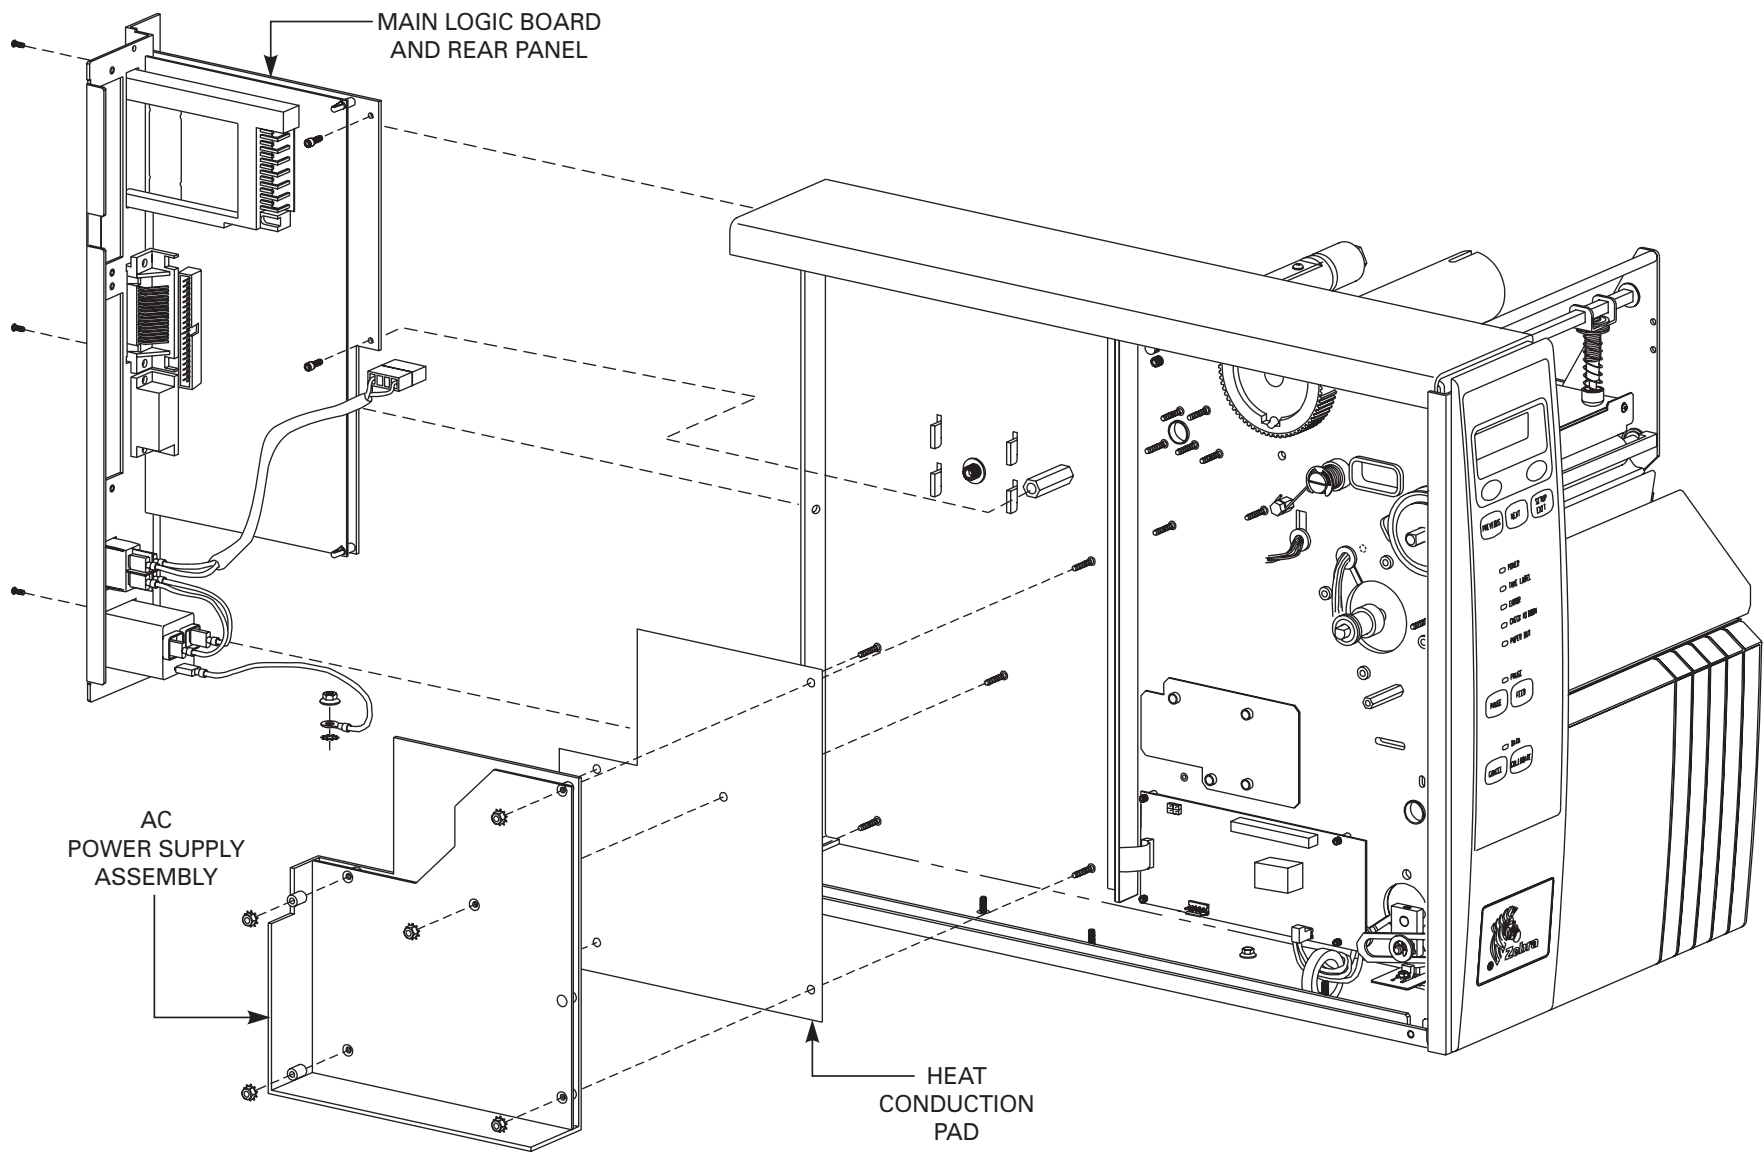

Figure 5.15 AC Power Supply Board
5. Refer to Figure 5.15. Remove the 2 screws at the top and center right hand corners of the metal mounting plate directly behind the Main Logic Board.
1. Refer to Figure 5.15. Position the cables out of the way while placing the AC Power Supply Assembly into the printer. (Insure the heat conduction pad is in position.)
2. Refer to Figure 5.15. Install the 5 hex nuts and 2 spacers which hold the AC Power Supply Assembly against the printer chassis. (Insure the plastic spacers are installed on the two left posts.)
4. Refer to Figure 5.15. Install the 2 screws at the top and center right hand corners of the metal mounting plate directly behind the Main Logic Board.